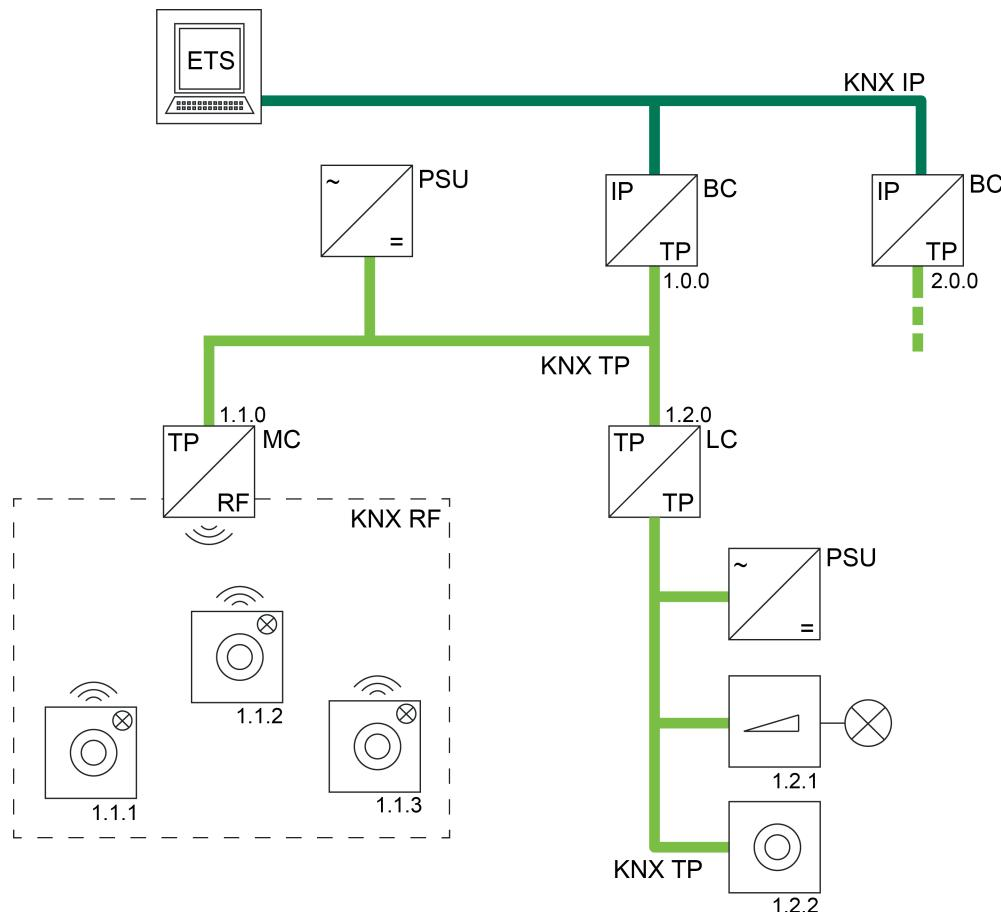

Figure 44: Example of a possible KNX topology with one KNX IP connection of the ETS (KNX/net IP)
- Use of a KNX IP data interface (KNX/net IP) (Figure 44):